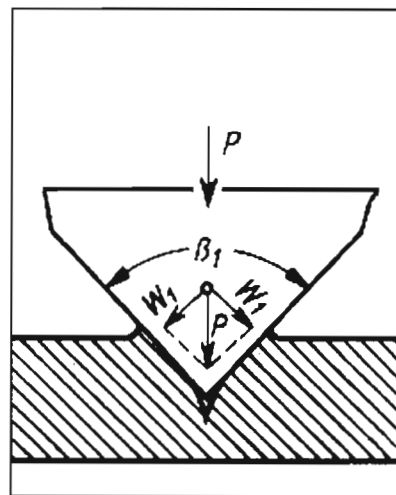
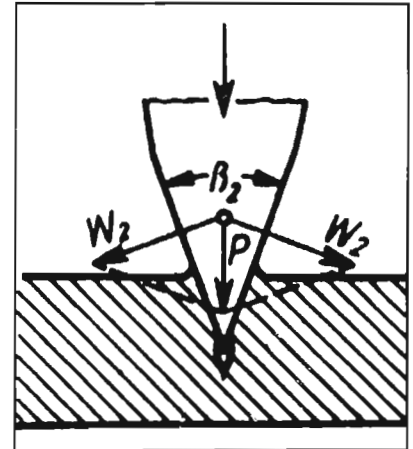

Figure 2. Large Wedge Angle
Figure 3. Small Wedge Angle
form the wedge angle (β). The cutting action is largely dependent on the size of the wedge angle. Figure 2 shows a large wedge angle: When entering the metal surface, a large amount of metal has to be pushed away, so the transformation resistance is high and requires a large amount of physical force (energy). Figure 3 shows a small wedge angle: Only a small amount of metal needs to be moved. Because of minimal transformation resistance, it is easy (low energy) to push the wedge into the metal. A knife edge (skinny) wedge has a tendency to glide-off easily and requires frequent re-sharpening. The comparison of the two shapes also demonstrates the force relation. The applied force (P) is the same for both examples. P translates into W_1 and W_2 . Wedge angle β_1 shows a relatively small side plane force, whereas wedge angle β_2 demonstrates a high side plane force.